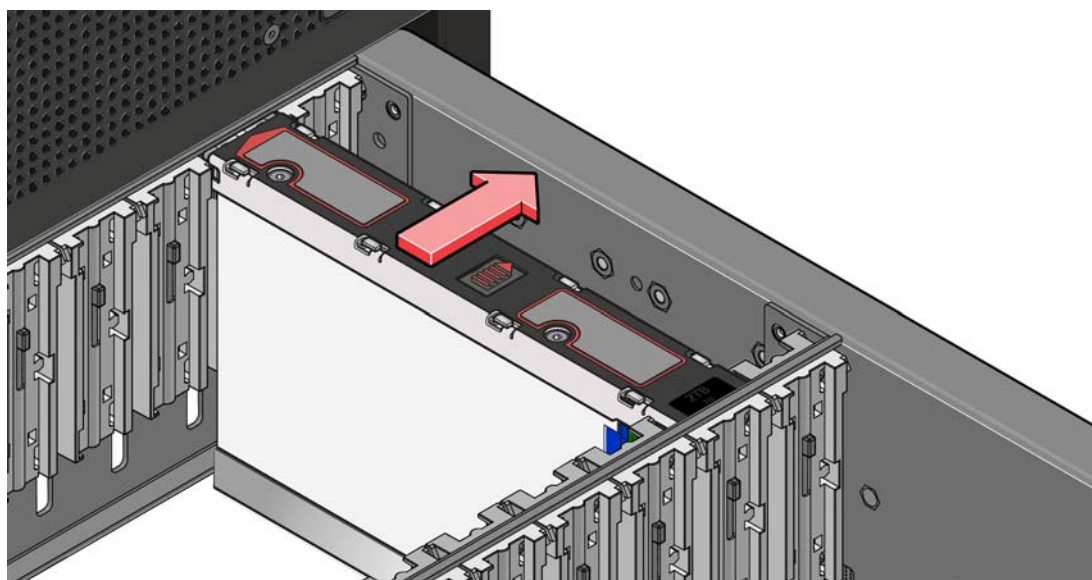

Figure 6-5 Removing a DDIC
- 4 Push the drive carrier latch in the direction shown in Figure 6-5 to unlock the drive.